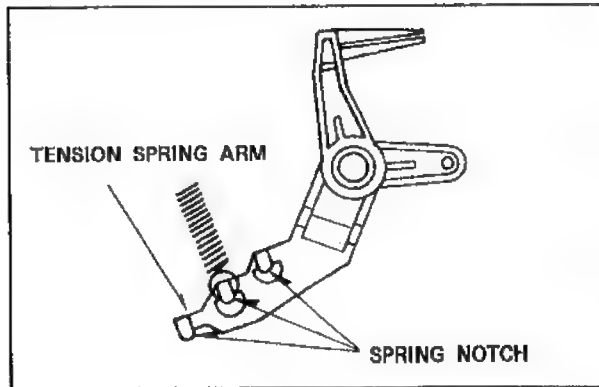

Fig.M28
3. If back tension is not in the specification, change the spring notch as shown in Fig.M28.